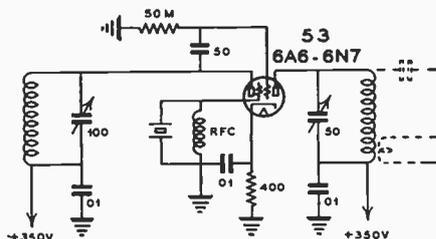

Fig. 2—Standard 6A6 oscillator-doubler circuit, the output of which is on the second harmonic of the crystal frequency.
**T**HE type of circuit in Fig 2 is a standard crystal oscillator-doubler with a 6A6, 53, or 6N7 dual-triode tube and the necessary plug-in coils. The circuit constants given in this diagram are suitable for any amateur band, up to and including 160 meters. With this type of circuit it is impossible to use the second section of the dual-triode as a straight-through buffer.